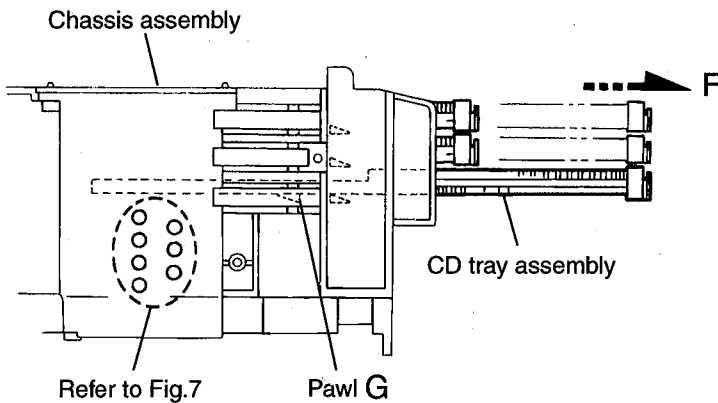

Fig.6
12. Make sure that the driver unit elevator is positioned as shown in Fig.6 from to the second or fifth hole on the left side face of the CD Traverse mechanism assembly.
14. Pull out all of the three stages of CD tray assembly in the arrow direction "F" until these stages stop (See Fig.6).